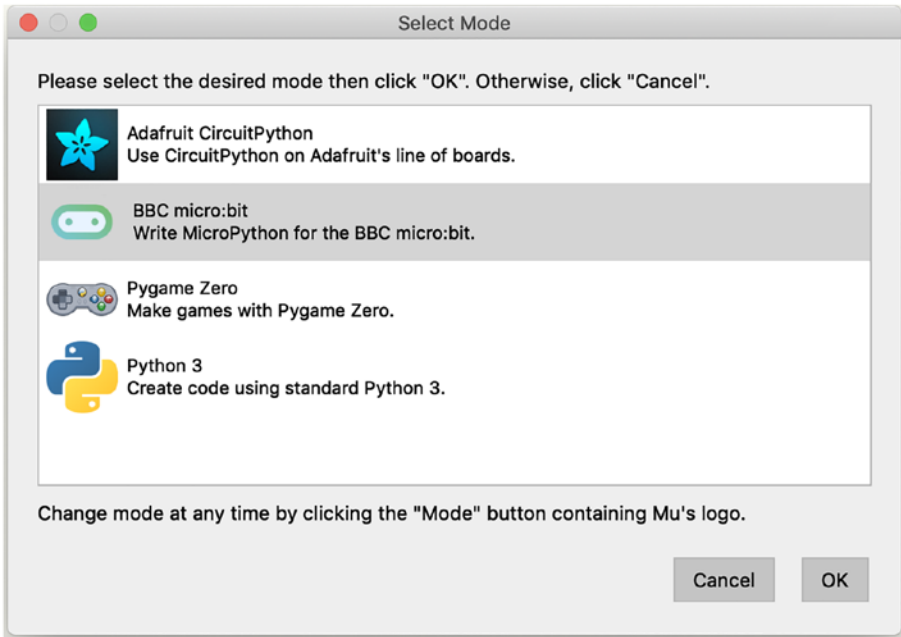

Figure A-3. Select “BBC micro:bit” mode in the Mu editor
- Click **BBC micro:bit** so it is highlighted, then click **OK** (Figure A-3)